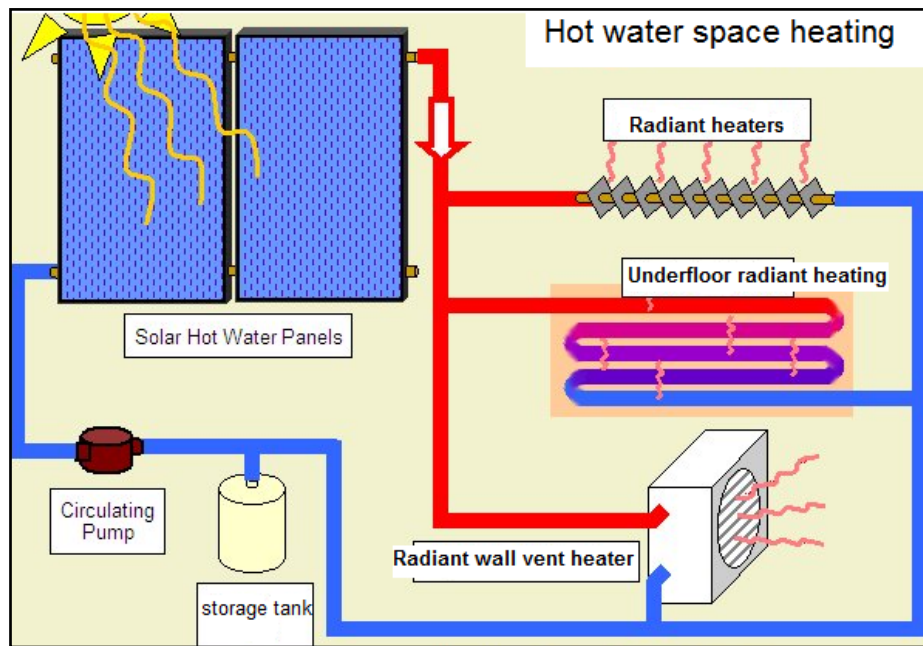

Figure 11
2. Water heated by the Sun can also be used to heat the air spaces in a home as shown in Figure 11. Heat passes from the hot water through metal pipes by conduction and then radiates from the surface of the metal pipes. Convection then moves the heat around a room.